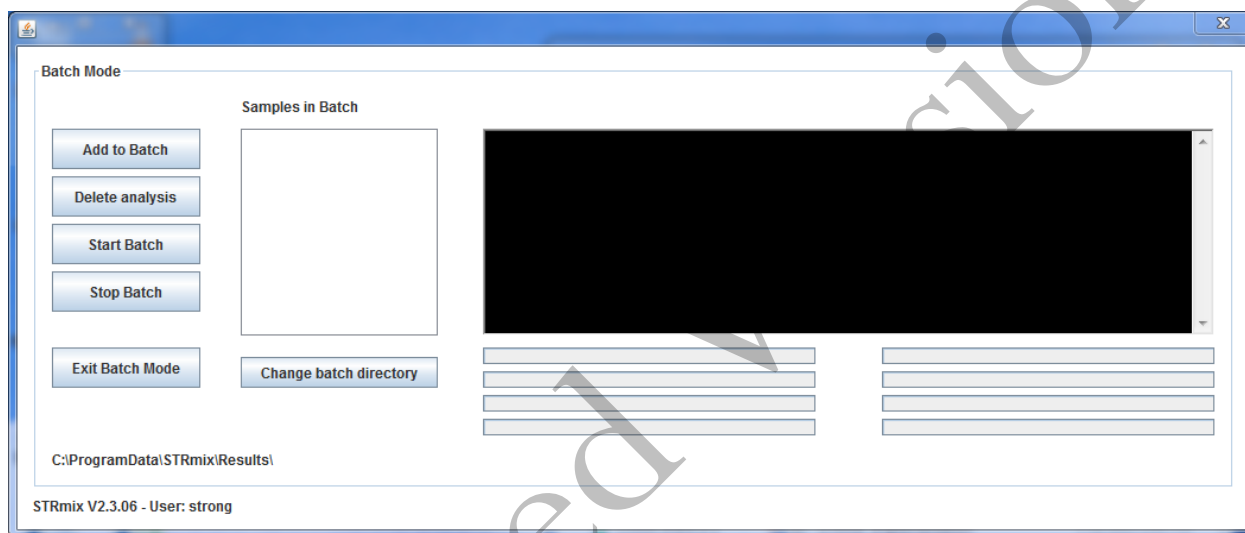

FIGURE 6
2. The process proceeds in the same way as Single Sample Analysis by going through steps 1 through 6. After step 6, when Start is selected, the software does not actually start a deconvolution, but will return you to the screen in Figure 6.
3. Once at the screen in Figure 6, additional STRmix™ analyses can be queued by repeating step 2 above. Once all the samples for the batch have been added, selecting Start Batch will commence the deconvolutions. The deconvolutions will proceed in alpha-numeric order.